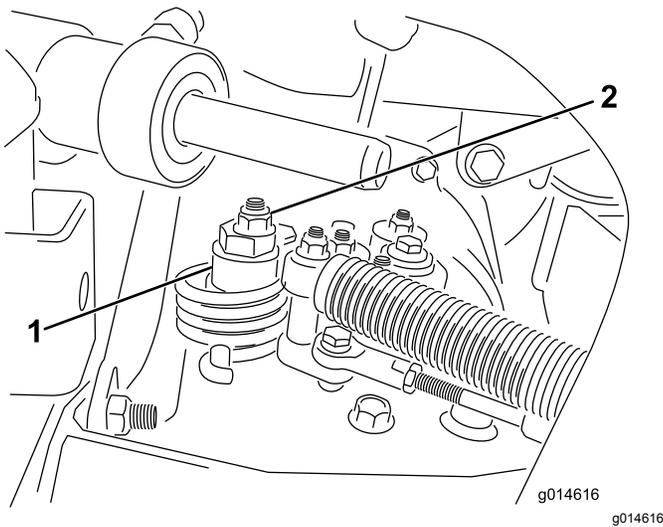

Figure 31
- A. Loosen the nut securing the eccentric to the top of the hydrostat (Figure 31).
- C. Rotate the eccentric until creep does not occur in either direction. When the wheel stops rotating, tighten the nut locking the eccentric and the adjustment (Figure 31). Verify the adjustment with the throttle in the SLOW and FAST position.